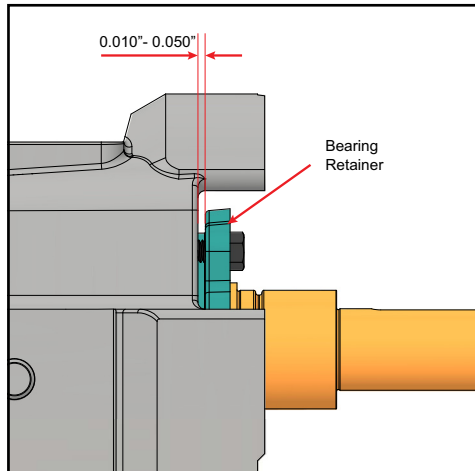

Figure 56 - Bearing Retainer Clearance
5. The bearing retainer must rest firmly against the bearing. Leave a .010 to .050 in (.25 to 1.25 mm) clearance between the back of the bearing retainer and the front of the gear case (Figure 56). If this clearance is not met, place shims between the bearing and retainer.